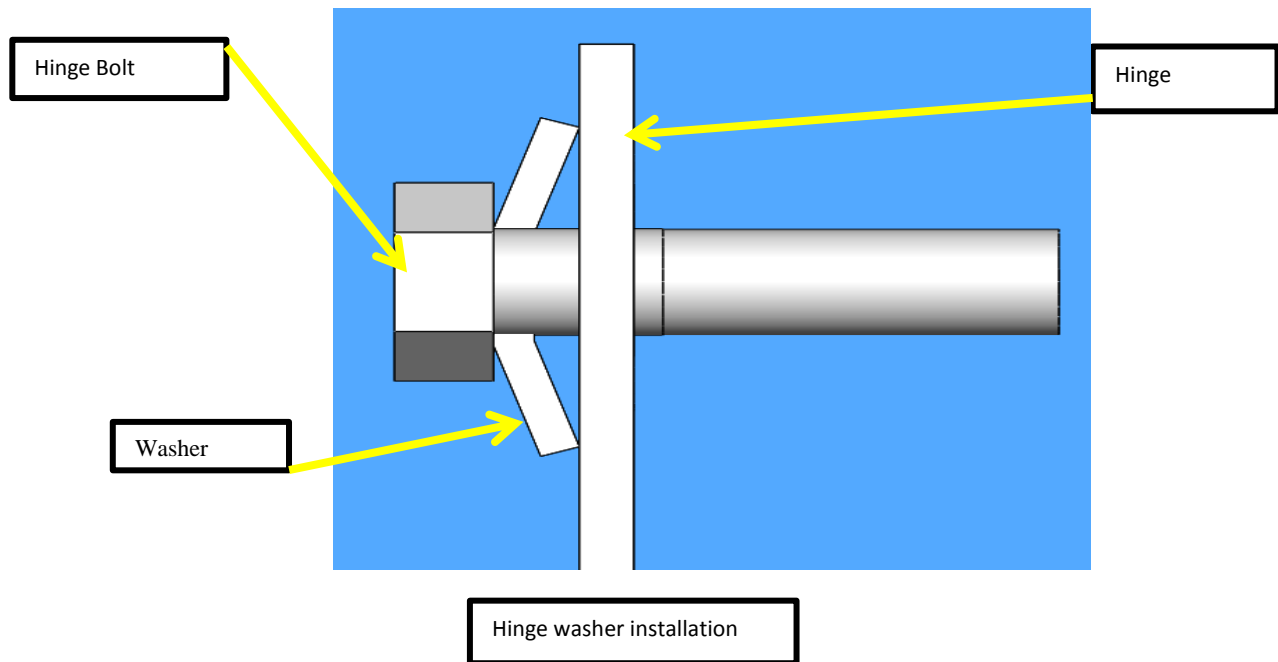
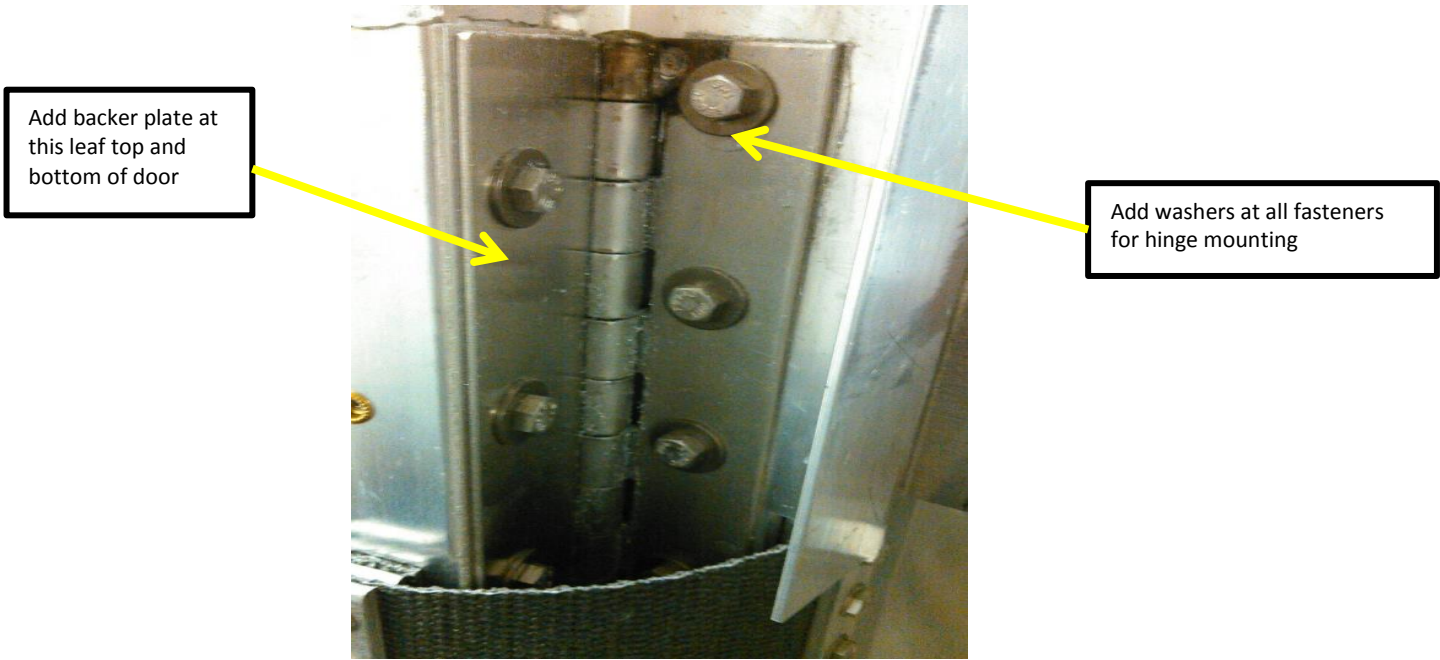
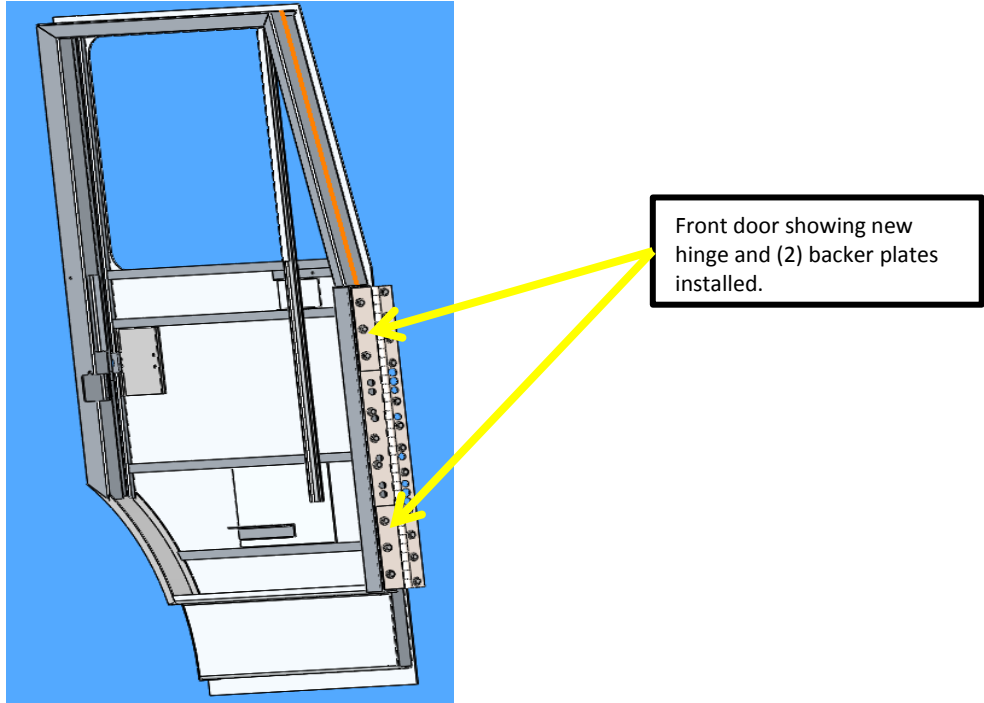

FIG.12-2
FIG. 13-1
FIG.13-2
12. Ensure that bolts and washers are clean and dry then reinstall new door hinge using retained bolts, new washers, (P.N. 61200596) and (2) reinforcement plates (P.N. 17200723) at each front door. No reinforcement plates required for the rear doors. For proper washer installation Refer to FIG. 12-2, FIG. 13-1 and FIG. 13-2.